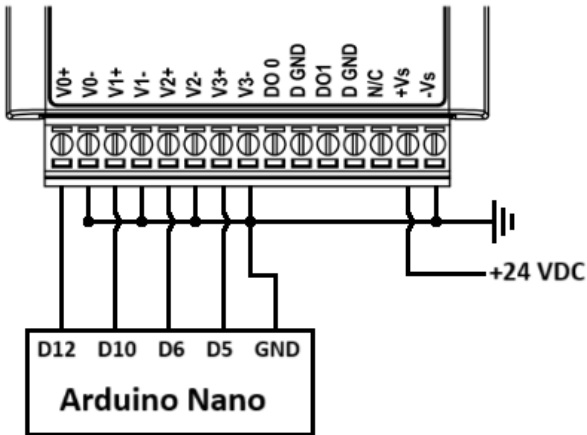

Figure 3 - Arduino Wiring
- Output of an Arduino (NPN open collector). See figure 3.